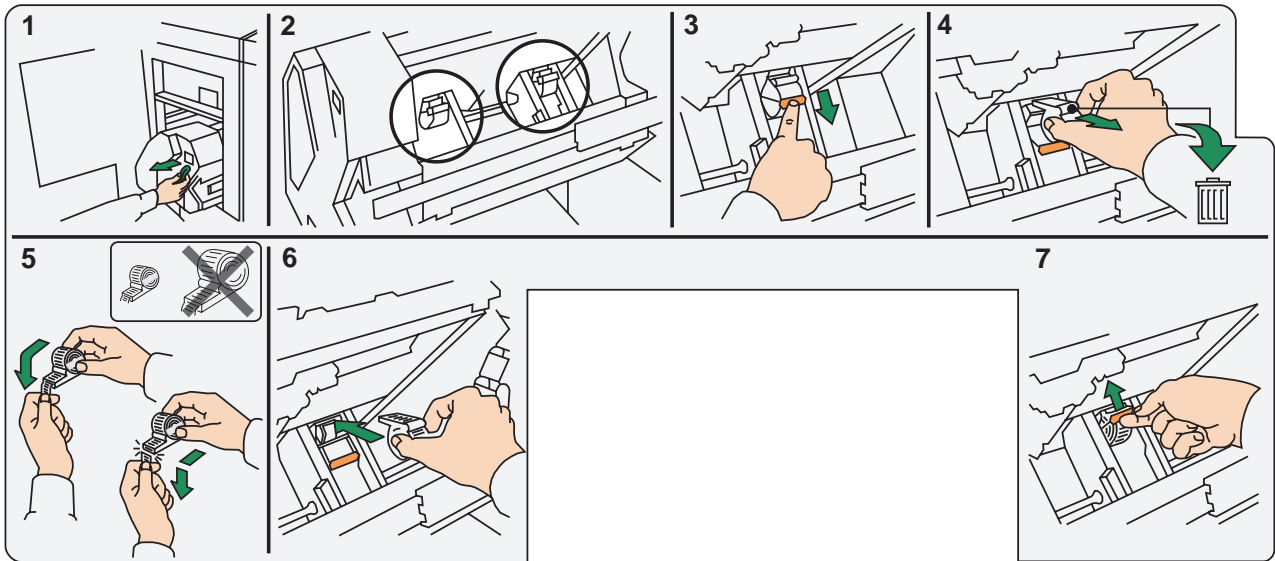

Figure 13. Label 2.2—Checking Staple Cartridge on Saddle Stitcher
- If you re-install the same staple cartridge, you must tear off any staples that are not housed inside the staple cartridge. Refer to Figure 12 on page 26 or Figure 13 on page 27 to help you understand this procedure. See Figure 2 on page 3 for label location.
- \_\_\_ 2. Notice label 2.2, as depicted in Figure 13 on page 27 (see Figure 2 on page 3 for location).
- \_\_\_ 5. If you are re-installing the staple cartridge you just removed, review label 2.2 (Figure 13, View 5) for instructions that help you trim off the staples that are **not** housed inside the staple cartridge.